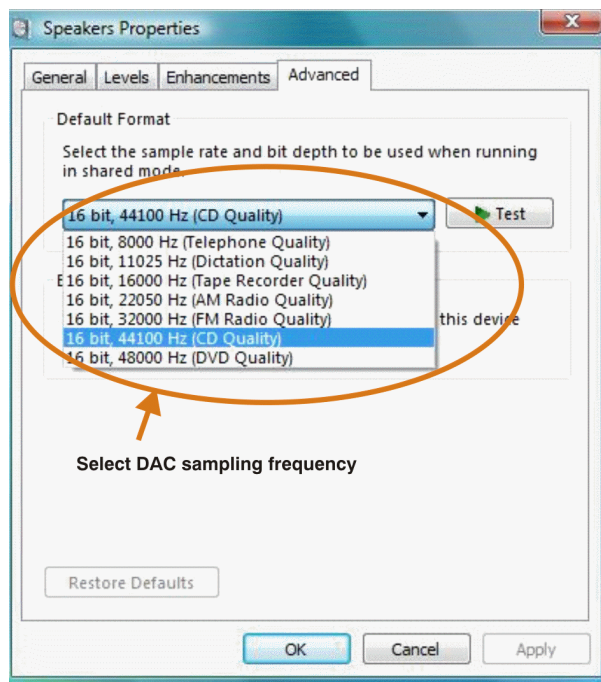

Figure 3-5. Speakers Properties—Advanced Tab (Windows Vista)
2. Open the speaker properties of the USB audio codec from the Sound options and select the *Advanced* tab, as Figure 3-5 illustrates.